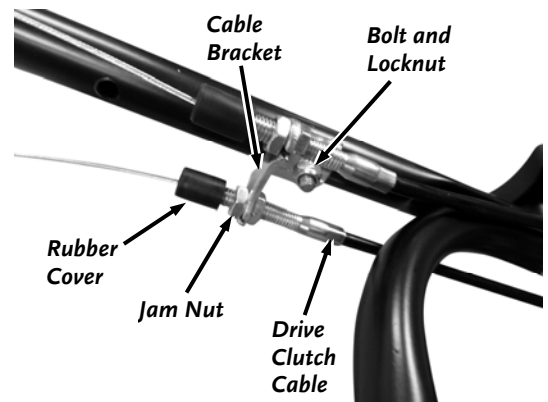
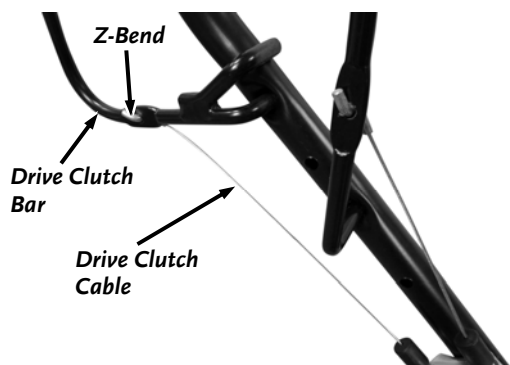

Figure 37
Figure 38
16. Slide the Rubber Cover from the end of the new Cable threaded portion and onto the Braided Cable (**Figure 37**).
19. Insert the Cable end through the Cable Bracket (**Figure 37**) and hook the Z-Bend into the Drive Clutch Bar (**Figure 38**).
20. Install the upper Jam Nut and tighten against the Bracket and lower Jam Nut using two 12mm Wrenches (**Figure 37**).